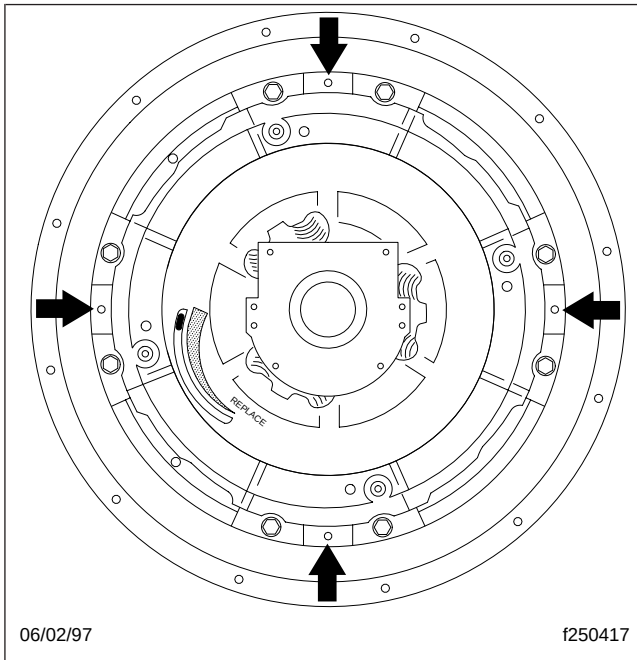
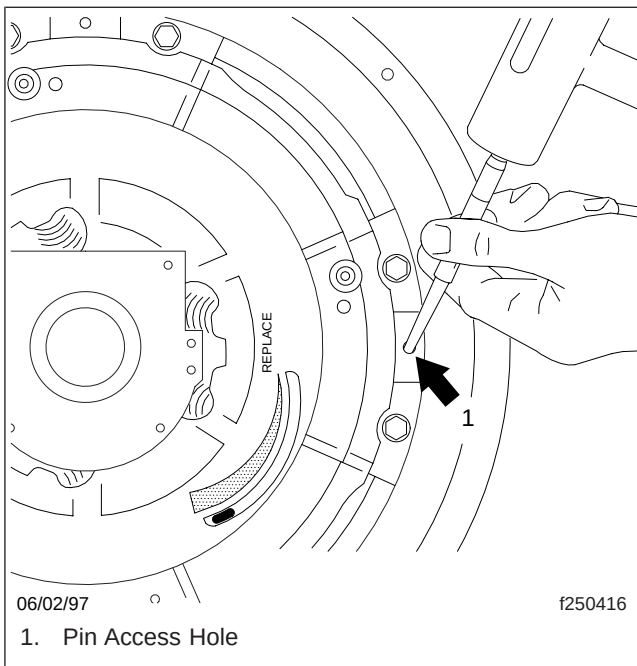

Fig. 10, Separator Pin Access Holes
Fig. 11, Tapping A Separator Pin
- 6.2 Measure the depth of the pressure plate. When the face of the pressure plate is 1.75 to 1.78 inches (44.4 to 45.2 mm) below the mounting surface of the clutch cover, the pressure plate is reset. See Fig. 10.
25.00**Clutch Inspection and Pre-Installation Procedures****Fig. 10, Reset Wear Pins**
11. To ensure that all four separator pins are flush against the flywheel, insert a 1/4-inch (6-mm) diameter flat-nose punch through the access holes and *lightly* tap each of them toward the flywheel. See Fig. 10 and Fig. 11.